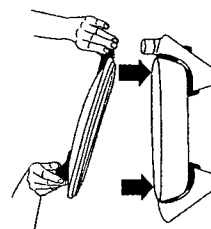

Fig. 1
- To attach the lid, be sure to align the lid hinge so that it slides down onto the matching heating base hinge. (see Fig. 1).